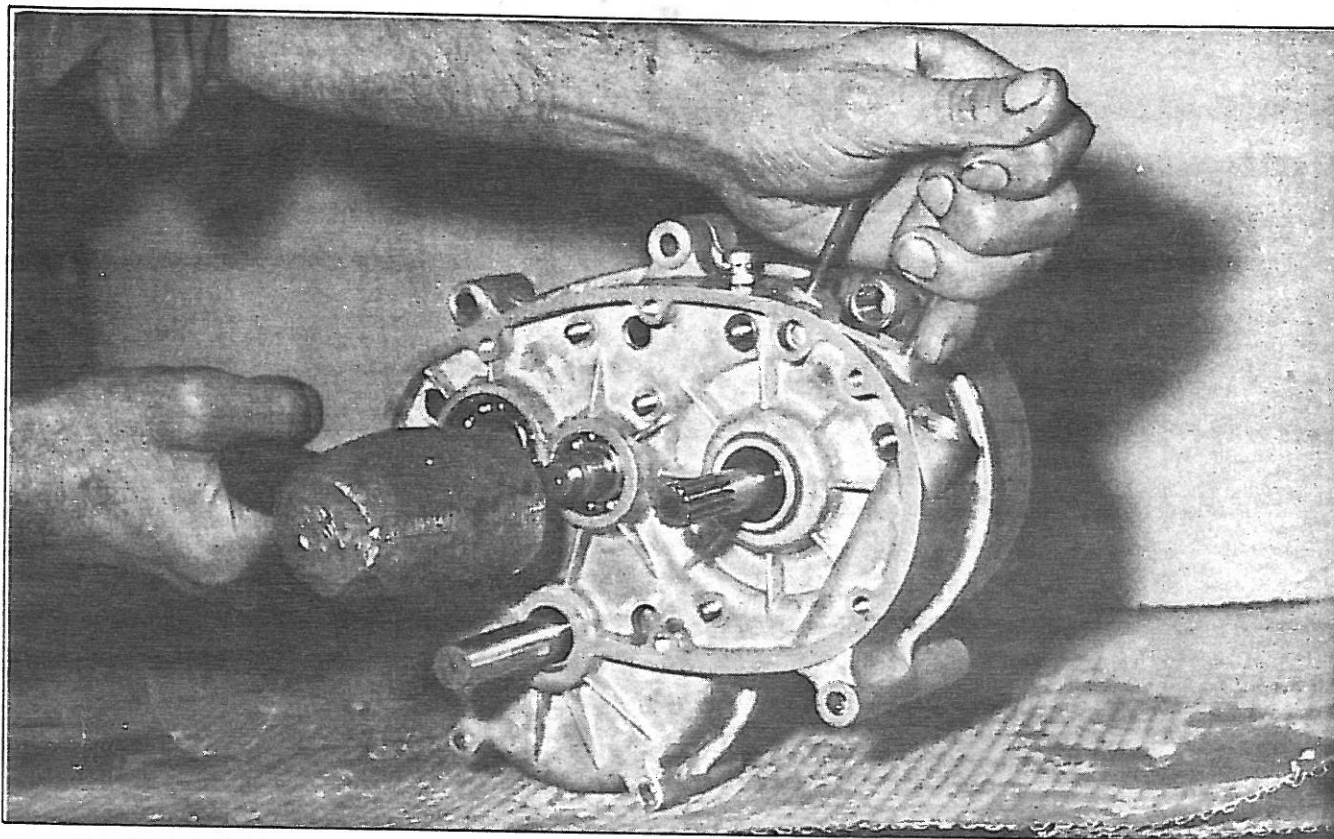

Figure 16.
6. Split apart the crankcase halves by striking the primary shaft on the clutch side with a soft-faced hammer (Figure 16).